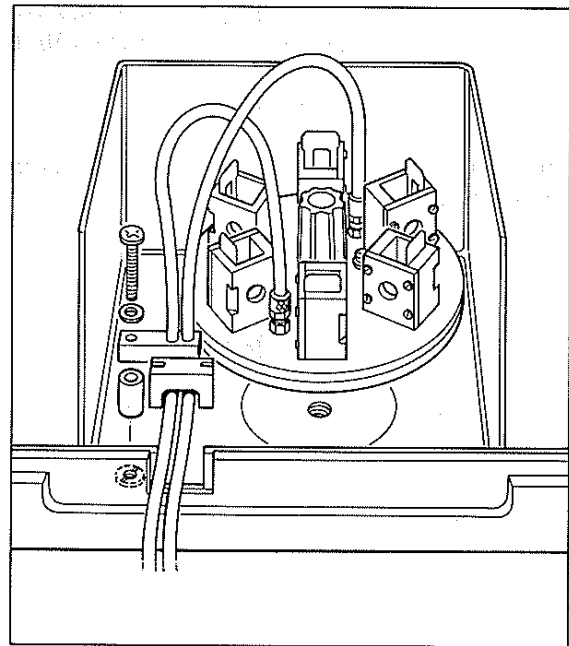

Fig.1.6 Fitting the tubing
- c) Locate the small plastic block and spacer supplied and lead the two water pipes (tubing) through the holes provided. (See Fig.1.6 section 1.6).
- c) Locate the small plastic block and spacer supplied and lead the two water pipes (tubing) through the holes provided. (See Fig.1.6).